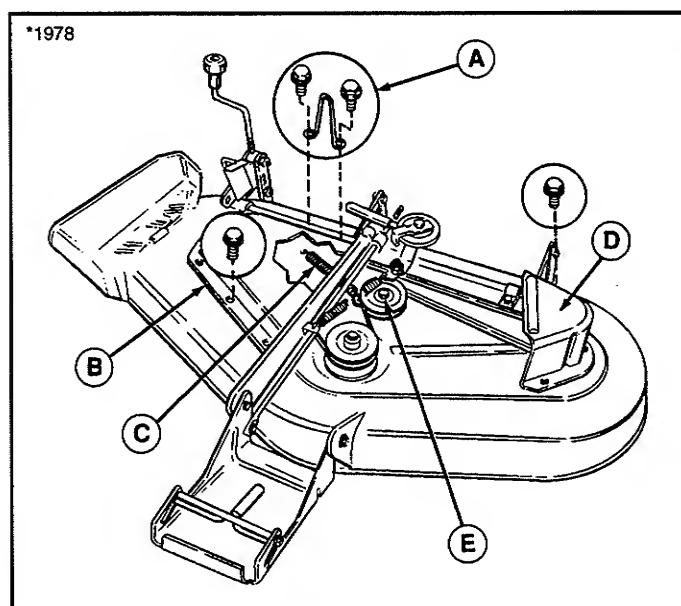

Figure 38. Mower Deck
4. Loosen nut and lockwasher securing bracket belt stop (C, figure 38) on idler pulley. Remove three cap-screws securing left-hand arbor cover (D, figure 38).
8. Install spring (C, figure 38) to slot in mower deck. Tighten capscrew securing idler pulley.